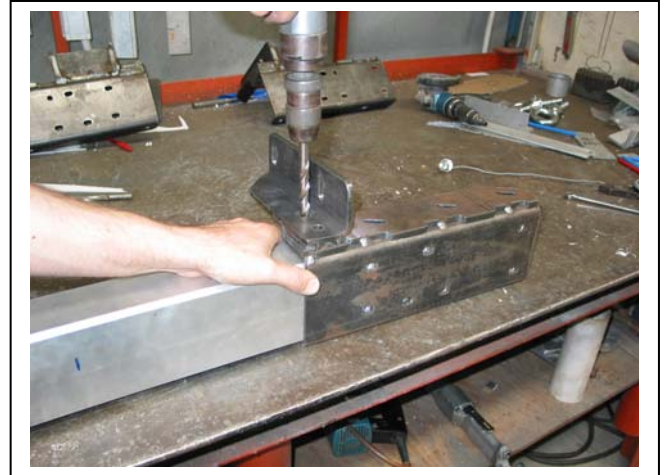

Figure 2
9. Slide steel mounting brackets (supplied) over alloy cross member and align all holes in steel mounting brackets to centre of holes in alloy cross member. Mark and drill 10mm holes both sides as per **figure 2. NOTE:** Holes drilled on underside of cross member, not on top.